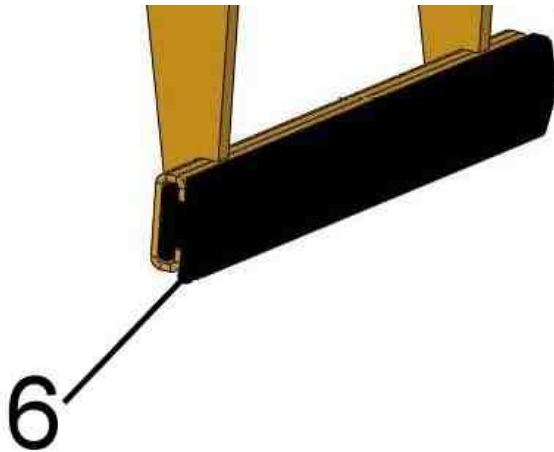
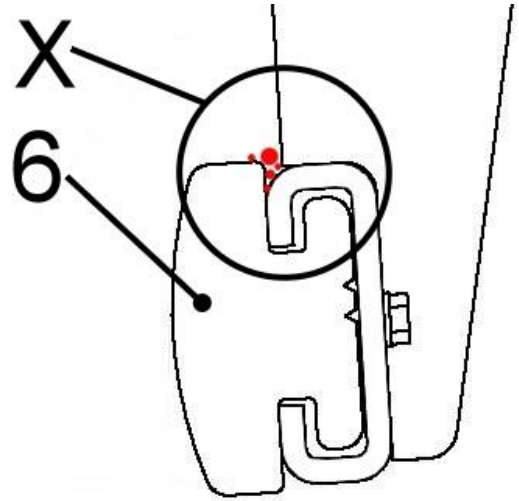

Fig. 1
Fig. 2
Regular control for dirt (e.g. little stone particles) in the upper area (see points in figure detail „X“ in Fig. 2) of the rubber gripper bar (6) → see Fig. 1 / Fig. 2